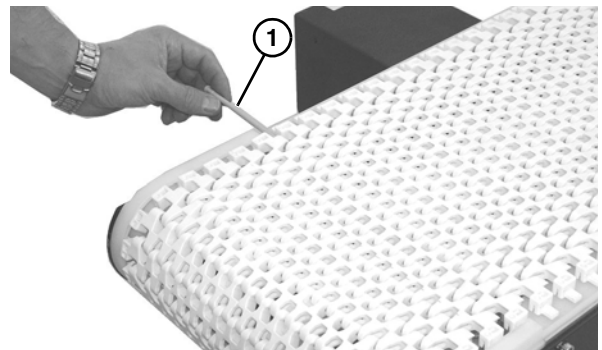

Figure 30
1. Use a punch and hammer to push the belt rod (Figure 30, item 1) out by striking the rod end opposite the retaining head.